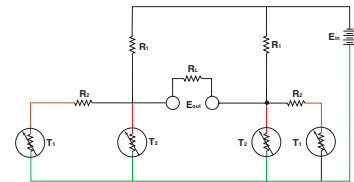

Figure 2
3. Connect two linear networks (#44203) as shown in Fig. 2.